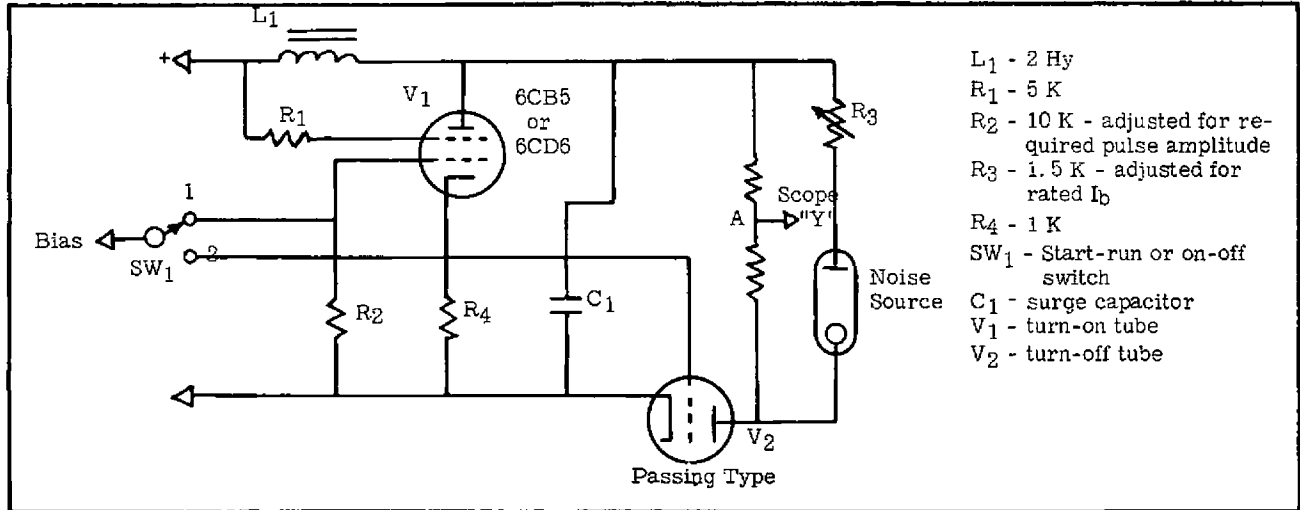

FIGURE 1: Typical Starting and Operating Circuit for Pulse Operation
- Note 1: With the noise source in a case grounded mount, starting voltages were measured as shown in Figures 1 and 2.